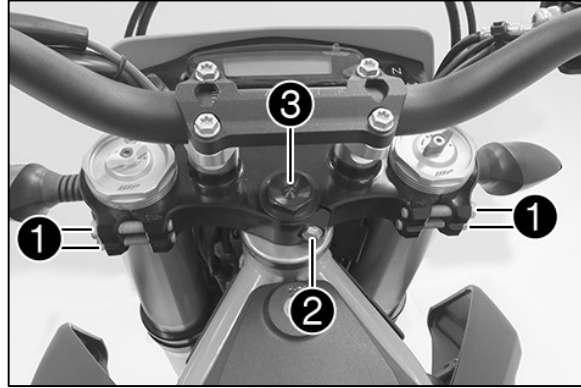

Fig. 2
5. Remove screws (1, 2, 3) and carefully remove triple clamp (Fig.2).